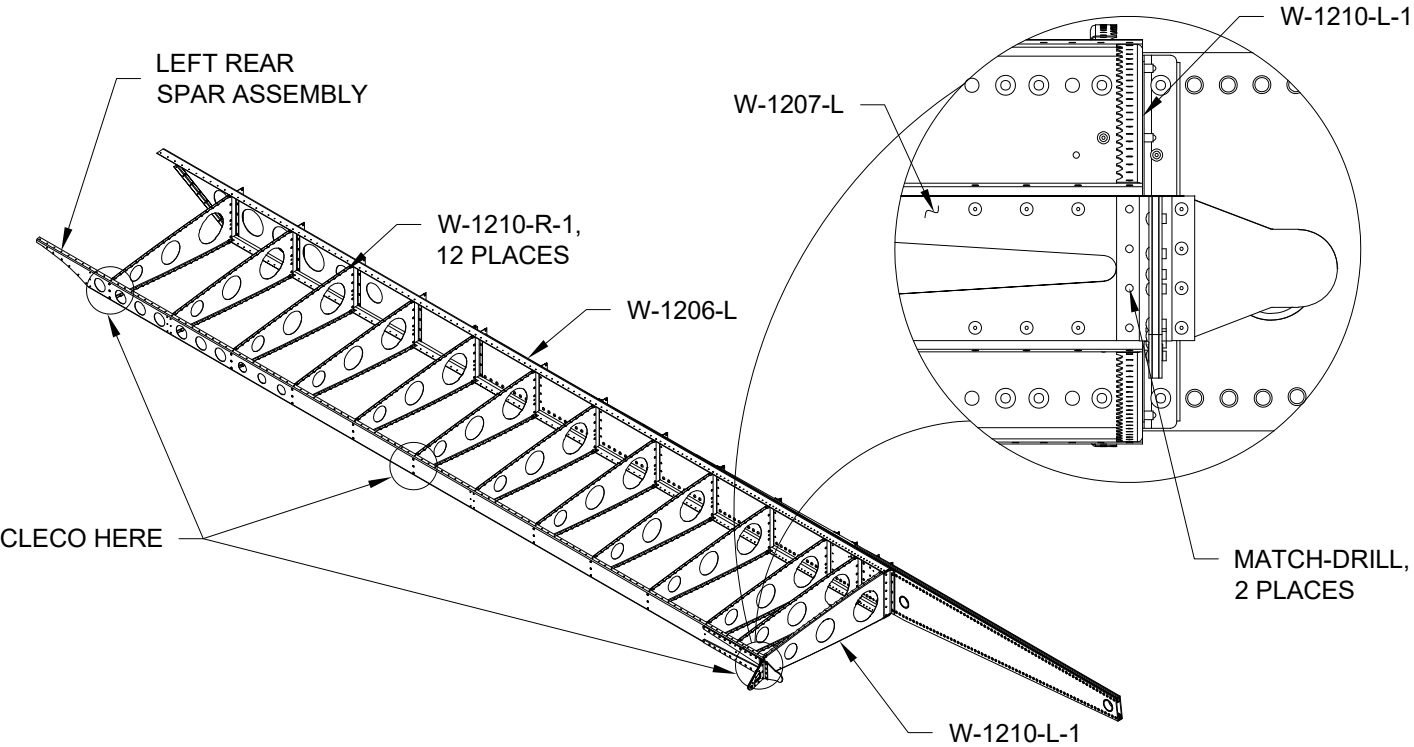

FIGURE 3: MATCH-DRILLING MAIN RIB AFT FLANGE
Step 7: Cleco the Left Rear Spar Assembly to the aft flanges of the W-1210-1 Main Ribs as shown in Figure 3.
Step 8: Match-drill #30 the hole locations in the aft flange of the main rib as shown in Figure 3. Remove the clecos and the Left Rear Spar Assembly and deburr match-drilled holes as required.